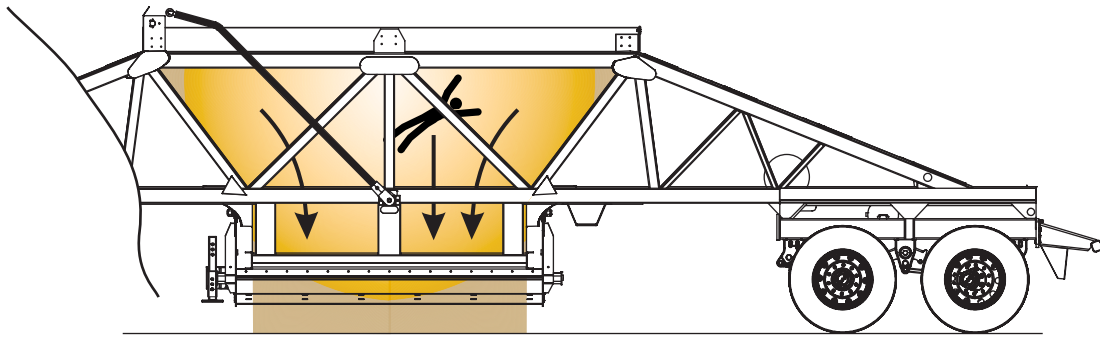

Figure 2-2 – Entrapment Hazard
- Depending on the product being hauled, a solid appearing surface may actually fail to support the weight of a worker, resulting in an entrapment/engulfment condition (Figure 2-2).